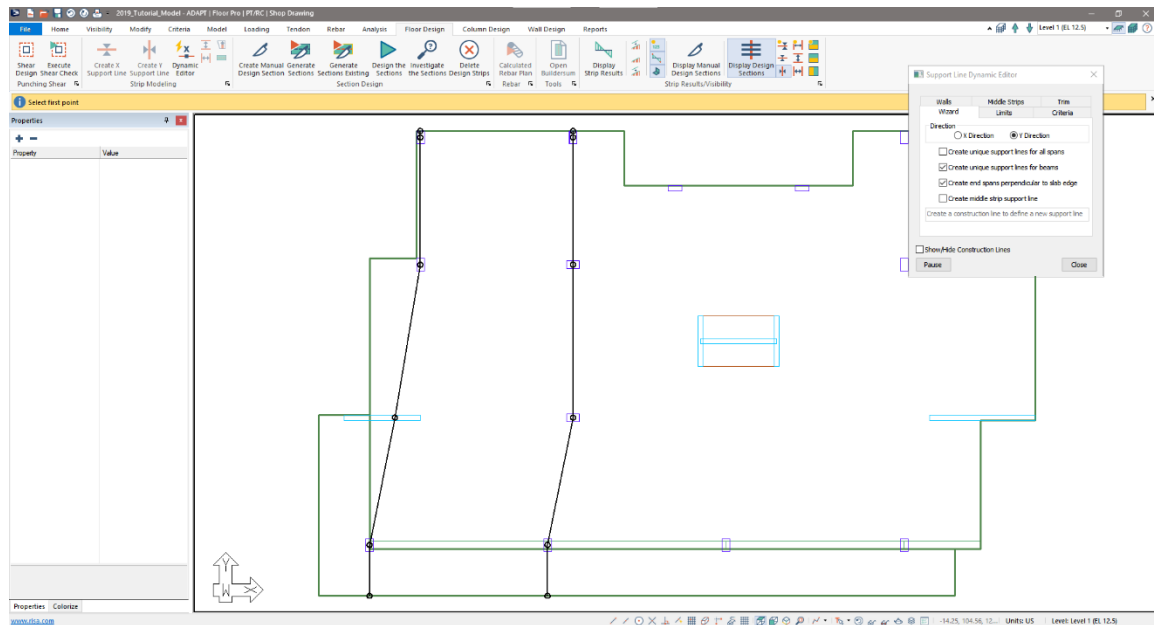

Figure 9-33
- Create the next support line in the same fashion as you created the previous support line. When finished the user should have a model that looks similar to that of **FIGURE 9-33**.